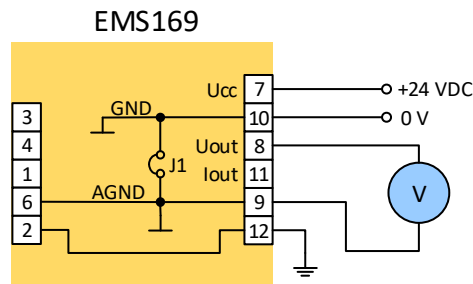

Fig. 7. Functionality test
2. **Functionality test of the signal conditioner.** The correct function can be detected by a simple control. Configure the signal conditioner to bipolar voltage output -  $10\text{V} \dots +10\text{V}$  ( $J2 = J3 = \text{ON}$ ,  $J4: 2 - 3 = \text{ON}$ ) and connect the power supply. No sensor is connected to the input. To the output connect voltmeter or ampermeter according to the type of output signal, see Fig. 7.
**Notice.** The voltmeter is shown in the figure 7. If the current output is used, the current must be also checked.